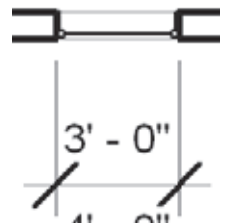

Figure 10.30
**Show Opening Height** This option returns the height of an opening below the dimension string. In the dimensioned window shown in Figure 10.30, the width is shown as 3'-0" and the height as 4'-0".